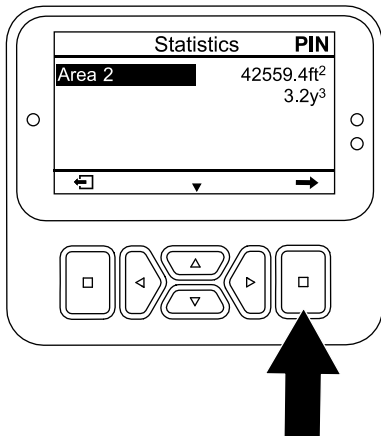

Figure 100
2. In the STATISTICS screen, press the down button until the AREA 2 option is selected (Figure 100).